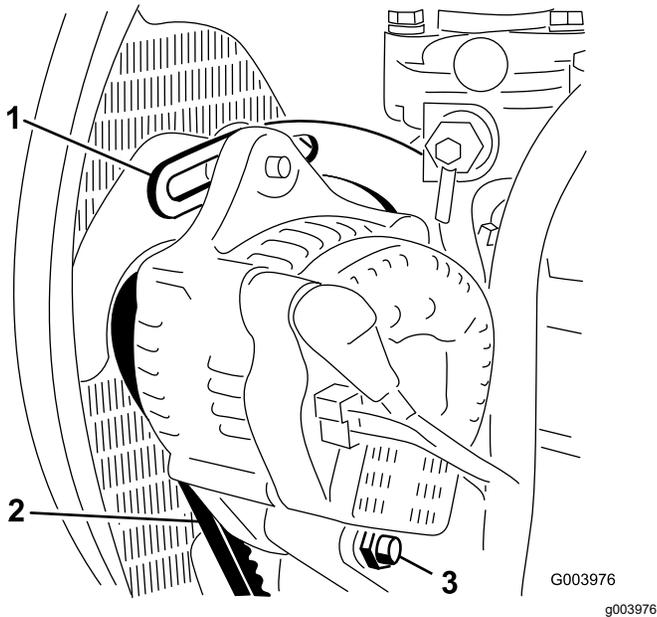

Figure 111
3. Check the tension of the alternator belt by pressing it (Figure 111) midway between the alternator and the crankshaft pulleys with 10 kg (22 lb) of force.
4. Loosen the bolt securing the alternator to the brace, and the alternator pivot bolt. (Figure 111)